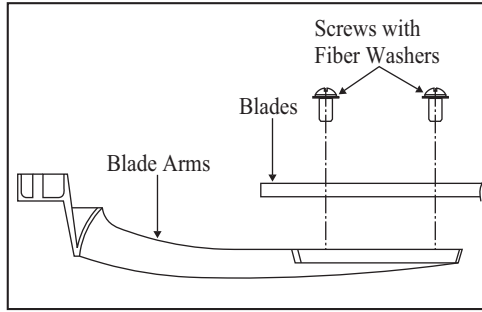

Figure 9
1. Attach blades to blade arms using three screws with fiber washers. (Fig. 9) Start a screw into the blade arm, do not tighten. Repeat for the 2 remaining screws and washers.